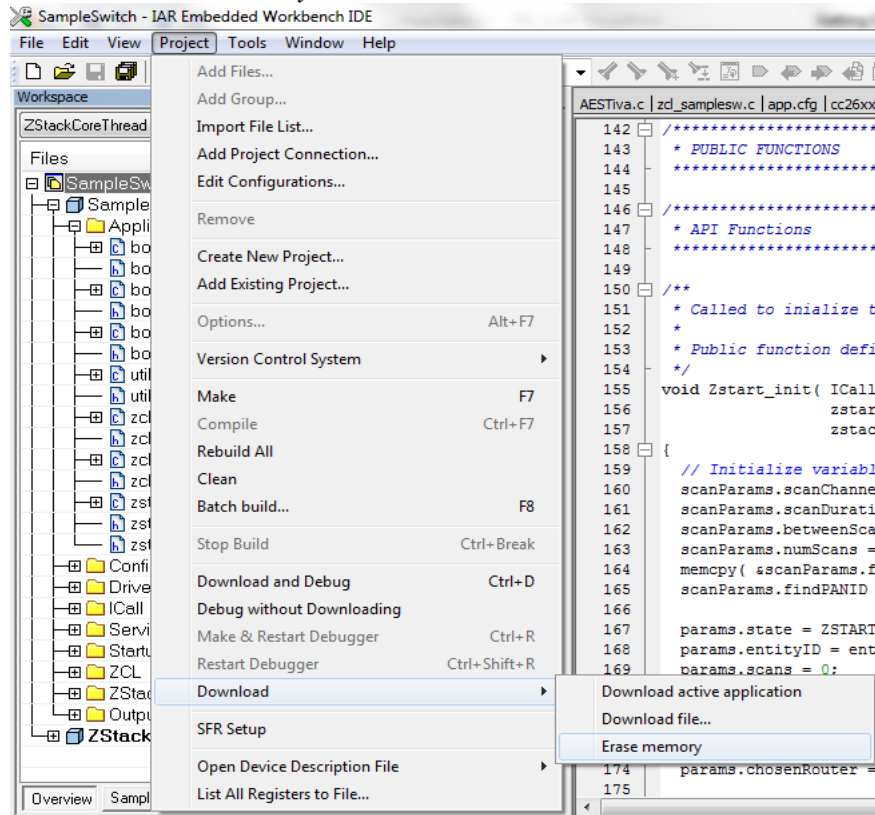
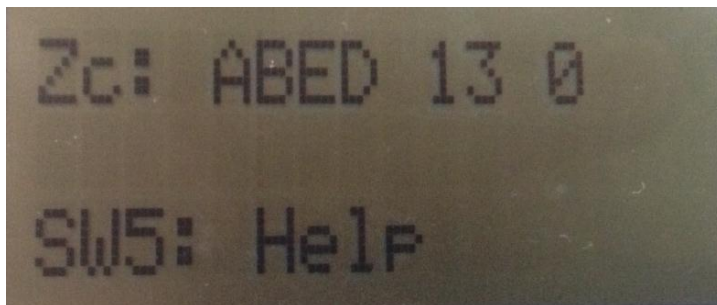

Figure 23 Erase memory
Figure 28: ZigBee Coordinator Startup screen
- Power on the SampleDoorLock and SampleDoorLockController boards. Once powered up, LCD will show “Texas Instruments”, the MAC address, and the device name. When the coordinator has formed a network, screen will appear as shown in **Figure 28** and the devices will be ready for EZ-Mode pairing.
1. Power on the SampleThermostat, SampleTemperatureSensor, and SampleHeatingCoolingUnit boards. Once powered up, LCD will show “Texas Instruments”, the MAC address, and the device name. When the coordinator has formed a network, the screen will appear as shown in **Figure 28** and the devices will be ready for EZ-Mode pairing.
- 1 Power on the SampleLight in one of the supported platforms and the SensorTag by inserting a coin cell battery or by connecting it to the SmartRF06board as shown in Figure 23. Once powered up, the LCD, in the SampleLight board, will show “Texas Instruments”, the MAC address, and the device name. When the coordinator has formed a network, in this case the SampleLight, the screen will appear as shown in Figure 28 and the devices will be ready for EZ-Mode pairing.